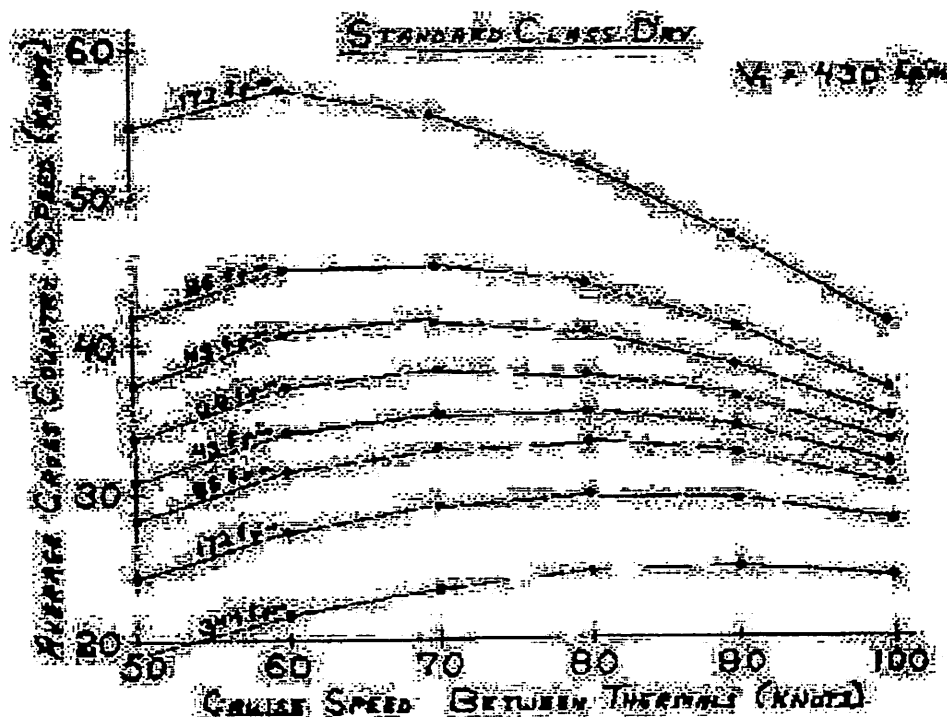

Figure 5
Now I have expanded on these curves so don't get overwhelmed by Figure 5. It is the same curve presented before, it shows your average cross country speed against your cruise speeds between thermals. Only this time I have shown it as a function of different rates of climb and rates of sink between thermals. (A) is the curve we had before at 43 feet per minute and the optimum speed to fly is about 75 knots. I'm arguing that maybe a speed of 65 is a pretty good choice. If you are flying through still air, (B) is 0.0 feet per minute. Your optimum speed drops to about 60 and you can probably do well at around 60 to 65. If you continue to fly into lift, 86 feet per minute (C) is coming up on zero sink on your variometer.